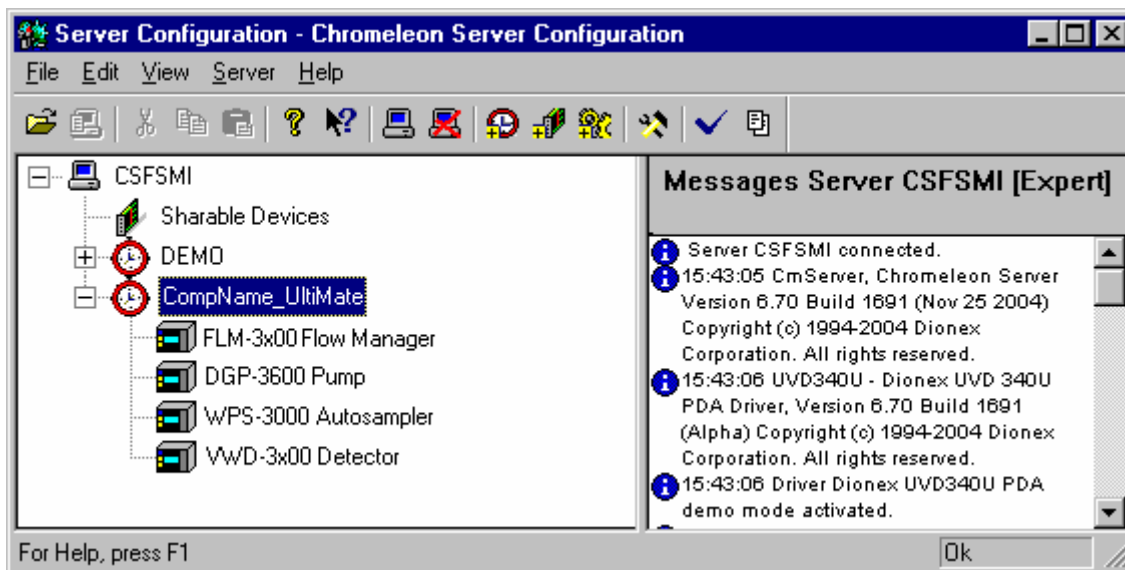

Fig. 25: Installation of an UltiMate 3000 system in the Server Configuration program (here: for Preconcentration, or 2D LC Salt Plug)
- Install and configure the system modules in the Chromeleon Server Configuration program as described in the *Operating Instructions* for the module. You can add the modules in any order to the timebase. However, some settings affect more than one module. Therefore, the preferred order of installation is as follows (→ Fig. 25, page 48):